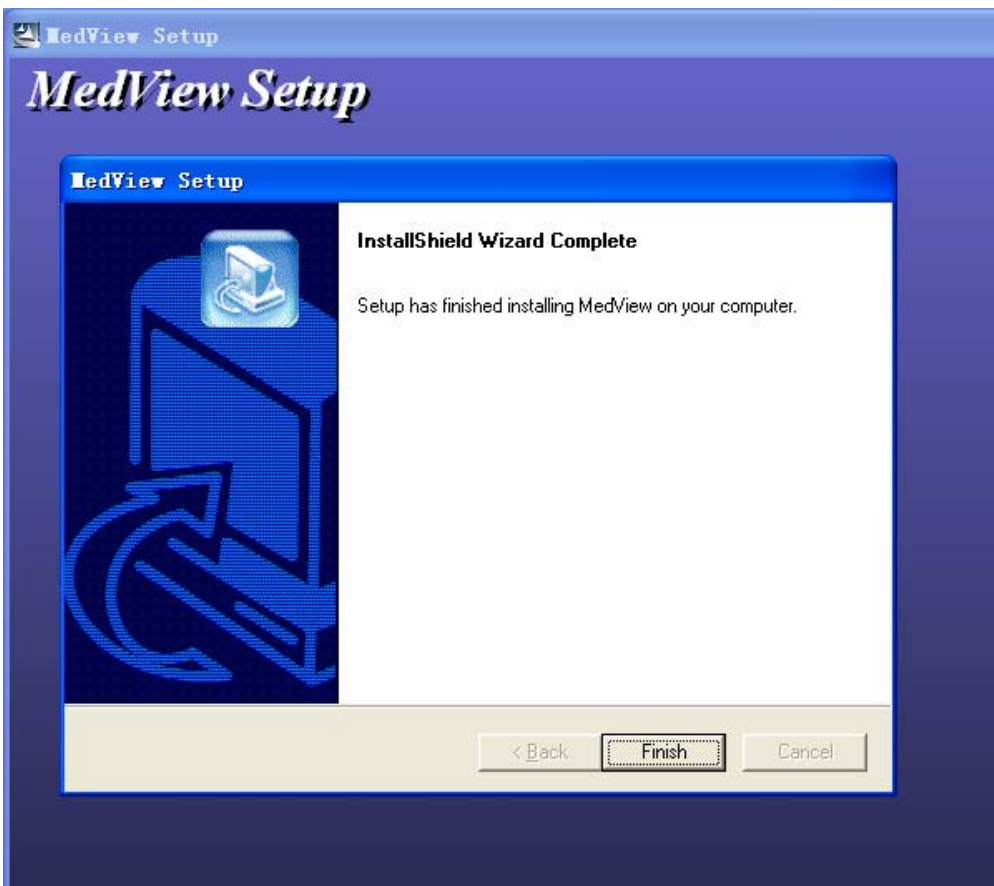

Figure 2-7
2.1.7 When the MedView Setup finished, the following figure will appear, as shown in Figure 2-7.
2.1.8 Click “Finish” button in Figure 2-7, the shortcut icon will be created on the desktop, as shown in Figure 2-8. The shortcut and Uninstall MedView icons are added into “Start” menu on the desktop, as shown in Figure 2-9.